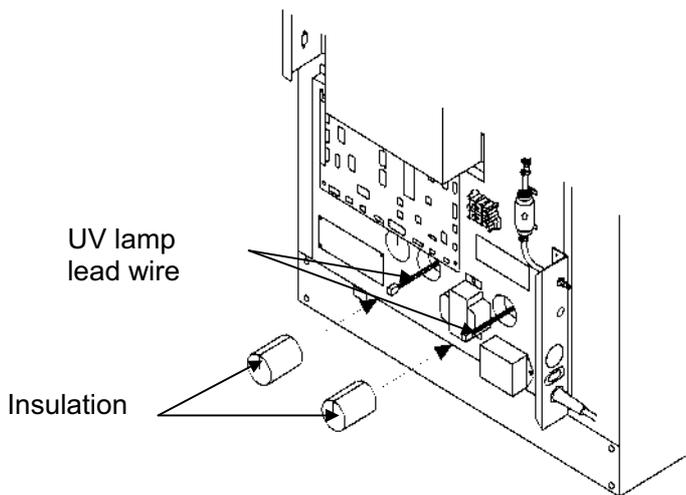

Fig.6
7. Replace the insulation into the UV lamp lead wire hole with the wire passed through the cut on the insulation. See Fig.6